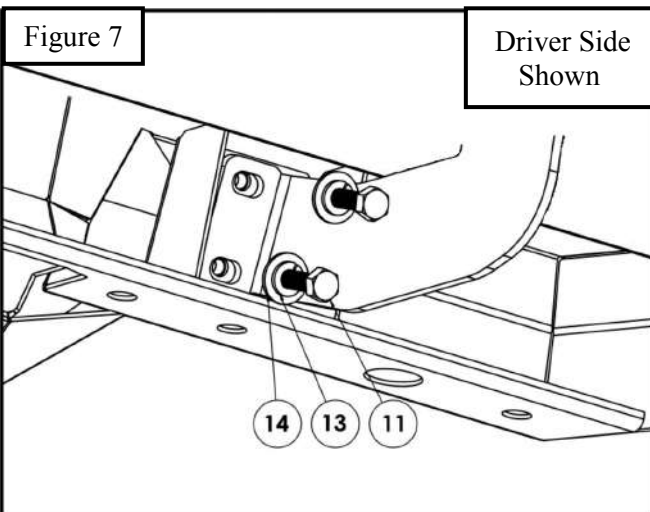

Figure 7
9. For Step Board installation to the previously installed mounting brackets use the supplied M8 hardware with long bolts on the Isolator Bracket (Item 15) and use M8 hardware with short bolts for all other mounting location. See **Figure 7 and 8**.